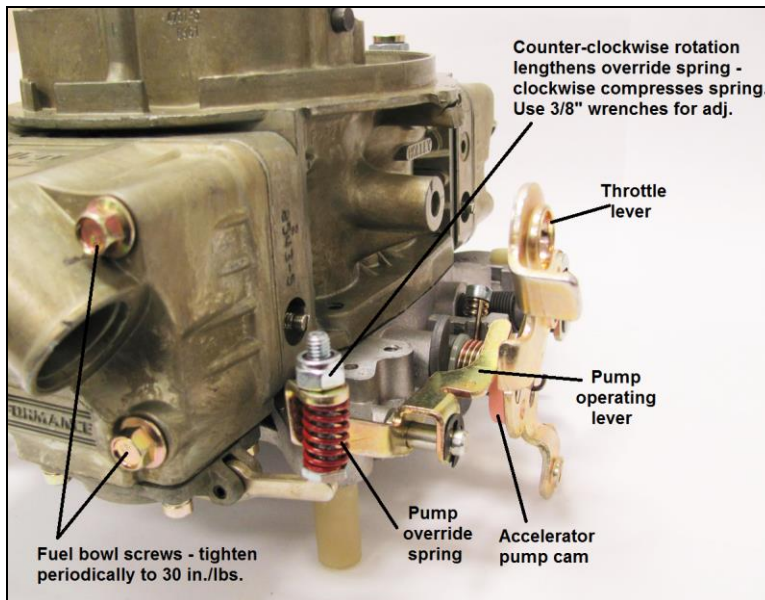

Figure 8
2. **Accelerator Pumps:** The "trick" to extracting peak performance from a "double pumper" is to get the pump shot delivered at the exact rate that is required by the engine. This rate is affected by the pump discharge nozzle size and the pump cam profiles. This carburetor has been calibrated for the most "typical" applications. Added performance can be obtained through "on the vehicle" testing. Necessary parts and tuning instructions are available in Holley TRICK kit P/N 37-933. In all cases, it is necessary that the slightest movement of the throttle lever results in movement of the pump operating lever. This is adjusted by compressing or relaxing the pump override spring as shown in Figure 8.